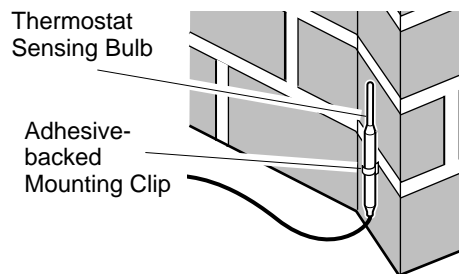
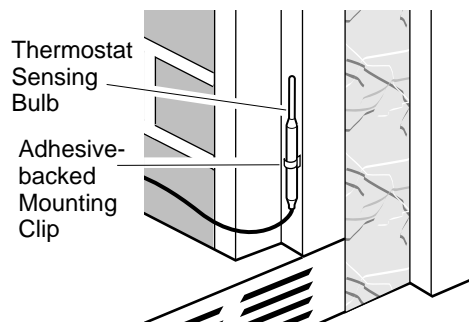
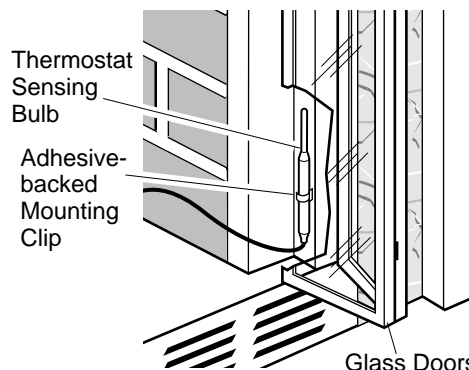

Figure 41 - Locating Thermostat Sensing Bulb on Masonry Fireplace
Figure 42 - Locating Thermostat Sensing Bulb on Factory-built Metal Fireplace
Figure 43 - Installing Thermostat Sensing Bulb behind Glass Doors
3. The thermostat sensing bulb may be located to the lower right front side of fireplace. Determine location of sensing bulb, but do not mount sensing bulb until step 5. If you have a masonry fireplace, see Figure 41 for location. If you have a factory-built metal fireplace, see Figure 42 for location. If your fireplace has glass doors, position sensing bulb directly behind door gap on right bottom side (see Figure 43).